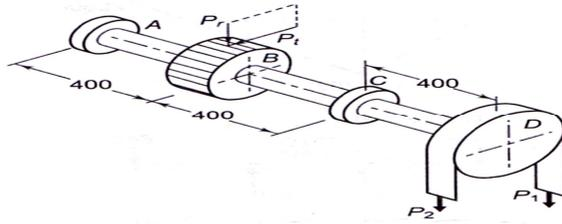

Fig 1
21. A transmission shaft supporting a spur gears B and the pulley D is shown in Fig 1. The shaft is mounted on two bearings A and C. The diameter of the pulley and the pitch circle diameter of the gear are 450 mm and 300 mm respectively. The pulley transmits 20 kW power at 500 rpm to the gear. P_1 and P_2 are belt tensions in the tight and loose sides, while P_t and P_r are tangential and radial components of gear tooth force. Assume $P_1 = 3P_2$ and $P_r = P_t \tan (20^\circ)$ CO3 [K₃]